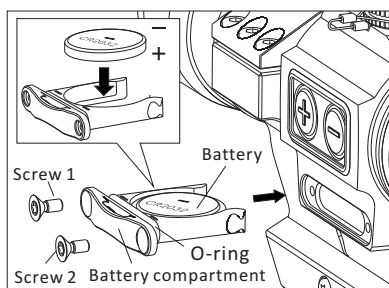

Fig2-2
- 2) Battery installation (Fig2-2):